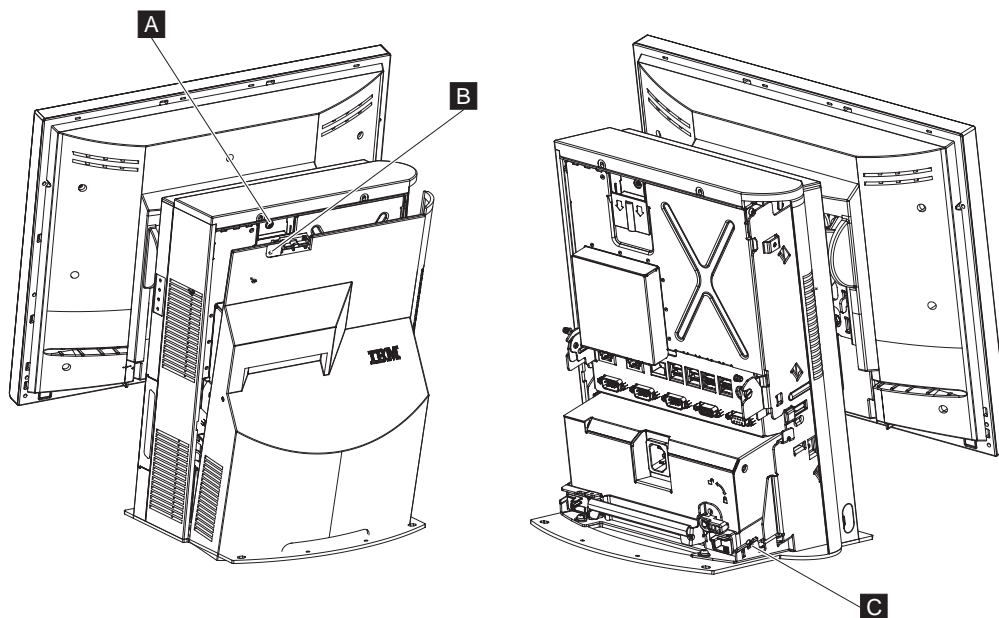

Figure 58. Security screws
- Top of plastic latch that opens the I/O tailgate, **A** in Figure 58
- Rear of the system unit, **B** in Figure 58
- Side of power supply to prevent removal, **C** in Figure 58